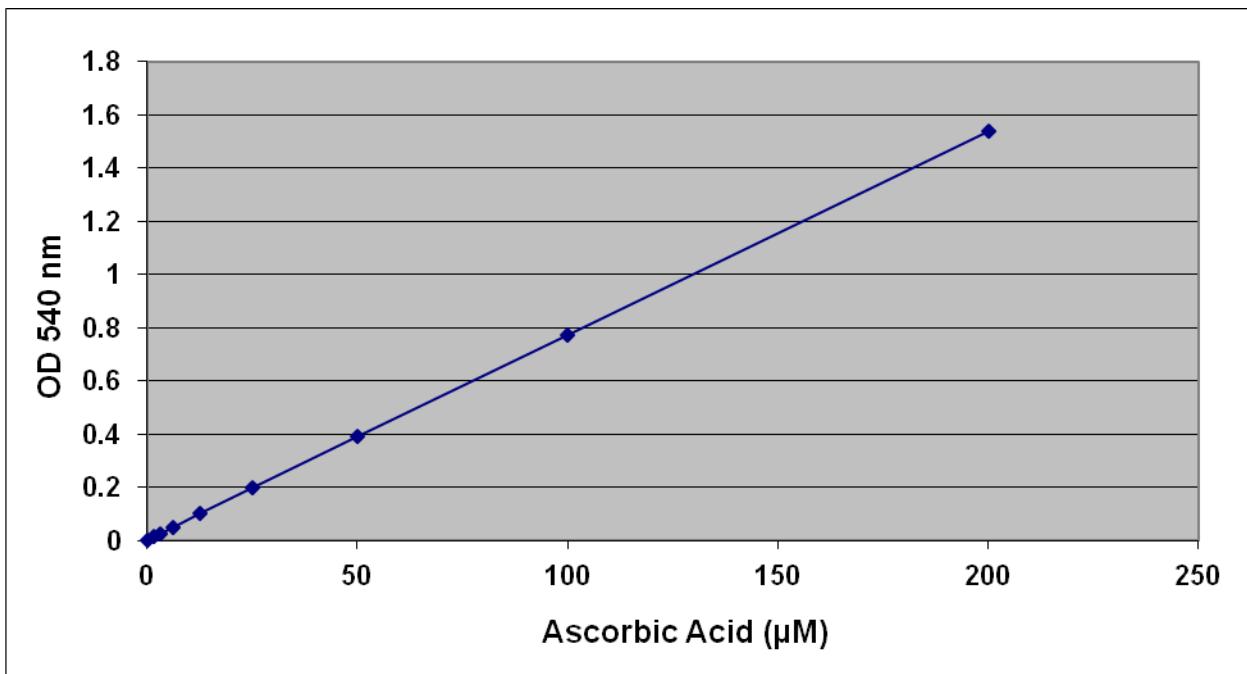

Figure 2. Ascorbic Acid Standard Curve.
3. Graph the standard curve (see Figure 2).